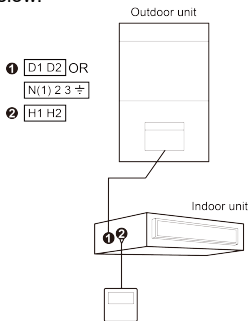
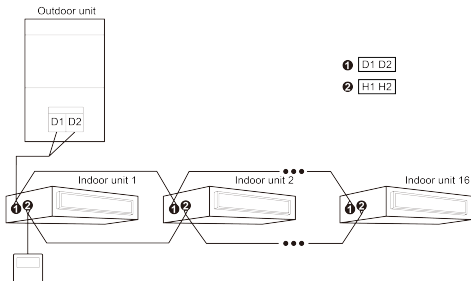
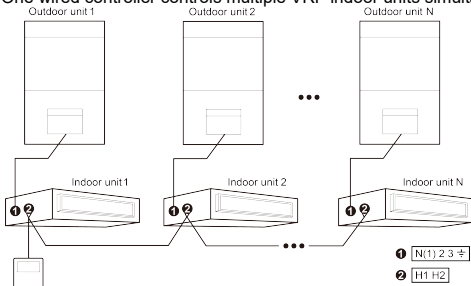

Fig. 5.4 One wired controller controls one indoor unit
Fig. 5.5 One wired controller controls multiple VRF indoor units simultaneously
Fig. 5.6 One wired controller controls multiple Packaged Unit simultaneously
- (1) The wiring methods in fig. 5.4 and fig. 5.6 can be adopted for the wired controller connecting Packaged Unit. It's suggested that the length of communication wire between devices should be 8m.
- (2) The wiring methods in fig. 5.4 and fig. 5.5 can be adopted for the wired controller connecting VRF unit. It's suggested that the average length of communication wire between devices should be 15m.
- (3) Only the wiring methods in fig. 5.4 can be adopted for the wired controller connecting Big Duct Type unit or Air-cooled Packaged unit, that is, one wired controller can control only one indoor unit, cannot control multiple indoor units of different systems.
- (4) When one wired controller controls multiple indoor units simultaneously, the wired controller can connect to any one indoor unit, but the connected indoor unit must be the same series indoor unit. The total quantity of indoor unit controlled by wired controller can't exceed 16 sets, and the connected indoor unit must be within the same indoor unit's network. Wire controller must set quantity of group control indoor units. Please refer to 5.2.2 Parameter Setting.
- (5) The terminal of the wire controller is non-polarized and cannot be connected to strong electric.